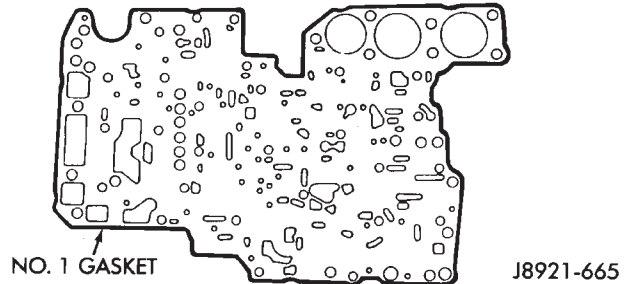
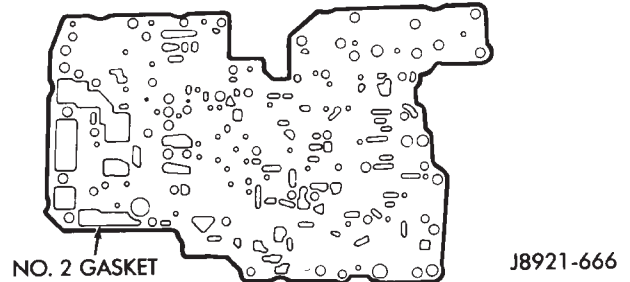

Fig. 1 Valve Body Gasket No. 1
Fig. 2 Valve Body Gasket No. 2
- (1) Position new No. 1 gasket (Fig. 1) on upper body.
- (2) Position valve body plate on No. 1 gasket.
- (3) Position new No. 2 gasket (Fig. 2) on valve body plate and align gaskets and plate using bolt holes as guides.